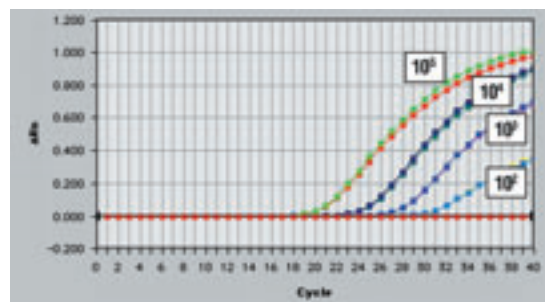

Figure 3. TaqMan® assay for GAPDH of total RNA isolation from different numbers of HeLa cells with the SV 96 Total RNA Isolation System.
the plates. The total RNA is eluted directly into a 96-well plate (25). This system is readily automated, and purifications have been performed with the Biomek® FX, Biomek® 2000, Tecan Genesis, and Packard Multiprobe® instruments. The RNA purified with the system is compatible with downstream applications such as RT-PCR, real-time and quantitative RT-PCR (Figure 3).